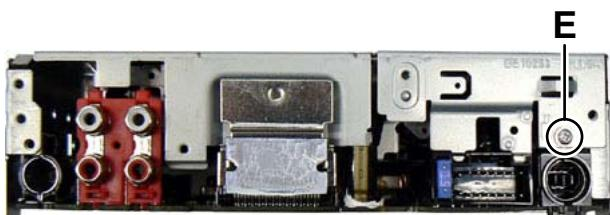

Fig.3
3.1.3 Removing the Main board (see Fig.3, 4, 5)
- (1) Remove the one screw **E** attaching the Top chassis. (See Fig.3)
3.2.2 Removing the top cover (See Fig.3 to 5)
- (1) From the front side of the CD MECHANISM assembly, change the hook position of the two roller springs. (See Fig.3.)
- (2) From the side of the CD MECHANISM assembly, remove the six screws **B** attaching the top cover. (See Fig.3 and 4.)